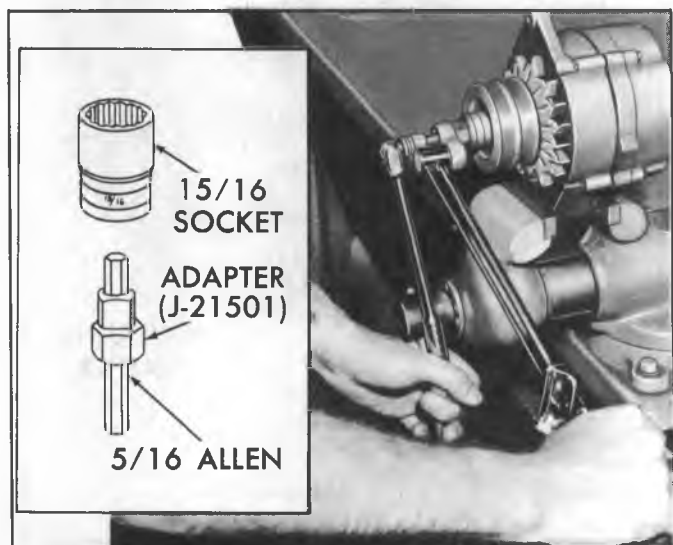

Fig. 9C--Installing Pulley Nut
2. Using adapter J-21501, insert an allen wrench into hex shaped hole at end of shaft and torque the shaft nut to 40-50 ft. lbs. (fig. 9C).